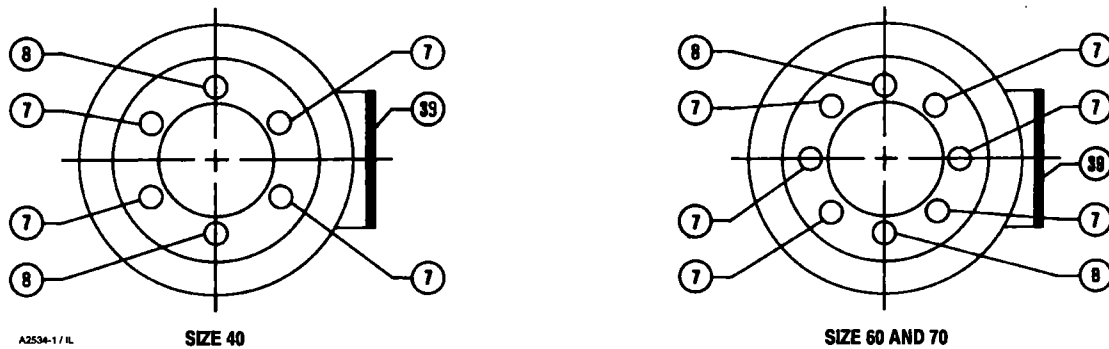

Figure 5. Travel Stop Orientation
- Assemble the diaphragm rod, spring seat (key 13), spring (key 11), and diaphragm plate (key 4), and secure with the cap screw (key 9). Tightening the cap screw will compress the spring. Be certain the tapered end of the diaphragm rod is seated in the corresponding hole in the diaphragm plate, that the spring is seated in the spring seat, and that the cap screw is tightened to the torque specified in table 3.
- Install the hex nut (key 58), turnbuckle (key 57), hex nut (key 16), and rod end bearing (key 17) onto the diaphragm rod.
- Be certain the travel stops (key 8) are located as shown in figure 5.
- Be sure the warning nameplate (key 56) is in place. Install the diaphragm (key 3) and the upper diaphragm casing (key 1). Install the cap screws and hex nuts (keys 5 and 6). Tighten the cap screws evenly in a crisscross pattern to compress the spring and secure the upper diaphragm casing. Refer to table 3 for torque values.
9. Be certain the travel stops (key 8) are located as shown in figure 5.
10. Install the spring (key 11) into the spring barrel. Install the diaphragm plate and diaphragm rod into the actuator. Attach the hex nut (key 58), turnbuckle (key 57), hex nut (key 16), and rod end bearing (key 17) to the diaphragm rod.
- Place the upper diaphragm casing (key 1) onto the lower diaphragm casing (key 2). If necessary, rotate the lower bearing seat (key 73) so that the upper diaphragm casing travel stop will not contact the diaphragm when the casing cap screws and nuts (key 5 and 6) are tightened.
13. Refer to the appropriate valve instruction manual for lever/valve shaft orientation marks, and slide the lever (key 27) into place; see figure 5 for correct lever operating clearance. Clamp with the cap screw (key 28, figure 9).
14. Rotate the lever (key 27) to align with the rod end bearing (key 17). This connection can be aided by carefully stroking the actuator off its up travel stop with a regulated air source.
15. Apply sealant (key 77) or equivalent thread-locking compound to the threads of the cap screw (key 18).
16. Connect the lever (key 27) and the rod end bearing (key 17) with the cap screw and hex nut (keys 18 and 19). Tighten the nut on the cap screw (see table 3).
17. Coat the bearing surfaces of the hub (key 29), and cover (key 33) with lubricant (key 76) or equivalent. Install the bushing (key 31) and hub into the cover. Secure with the retaining ring (key 30).
18. Install the travel indicator scale (key 35), and secure it with the self-tapping screws (key 36). Then install the travel indicator (key 37), and secure it with the self-tapping screws (key 38).
19. Note the valve disk or ball position, and direction of rotation. Position the travel indicator (key 37) accordingly.
20. Replace the cover (key 33), and secure with cap screws and washers (keys 34 and 63). If the holes in the cover and housing (key 20) do not align, use a regulated air source to move the actuator slightly off the up travel stop. If hole alignment cannot be obtained in this manner, temporarily loosen cap screws (key 23), and shift the housing slightly. Do not stroke the actuator while the cover is off.
- Unscrew cap screws (key 23), and remove the actuator housing (key 20) from the mounting yoke (key 22).
- Rotate the housing 180 degrees, maintaining the appropriate position (1, 2, 3, or 4), and place the actuator onto the mounting yoke (key 22).
6. If changing positions, unscrew cap screws (key 23), and rotate the actuator housing to the desired position.
7. Secure actuator housing (key 20) to the mounting yoke (key 22) with cap screws (key 23). Consult table 3 for appropriate bolt torques.
8. Consult the appropriate valve instruction manual for lever/valve shaft orientation marks, and slide the lever (key 27) into place; see figure 5 for correct lever operating clearance. Clamp with the cap screw (key 28).
9. Rotate the lever (key 27) to align with the rod end bearing (key 17). This connection can be aided by stroking the actuator off its up travel stop with a regulated air source.
10. Apply sealant (key 77) or equivalent thread-locking compound to the threads of the cap screw (key 18).
11. Connect the lever (key 27) and the rod end bearing (key 17) with the cap screw and hex nut (keys 18 and 19). Tighten cap screw to the recommended bolt torque shown in table 3. This connection can be aided by stroking the actuator from its up travel stop with a regulated air source.
12. Note the valve position and direction of rotation. Position the travel indicator (key 37) accordingly. Replace the cover (key 33), and secure it with cap screws and washers (keys 34 and 63).
- If the holes in the cover and housing (key 20) do not align, use a regulated air source to move the actuator slightly off the up travel stop.
- If hole alignment cannot be obtained in this manner, temporarily loosen cap screws (key 23) and shift the housing slightly. Do not stroke the actuator while the cover is off.